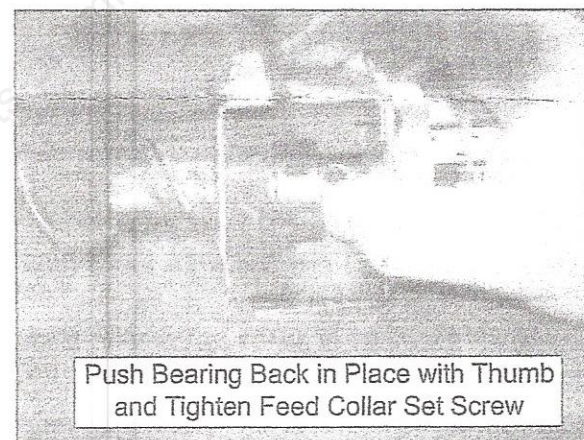

Figure 11
3. Move the feed collar away from the plastic bearing to release the pressure and then push it lightly against it again. Figure 11.